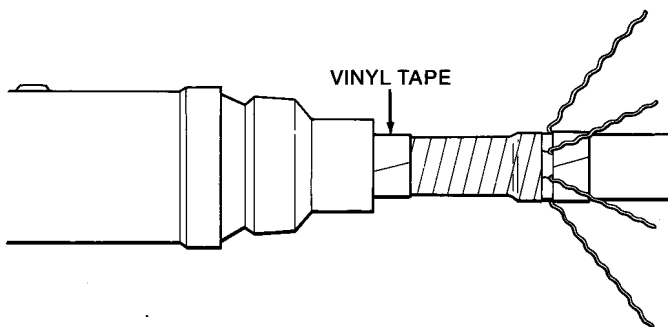

Figure 5
1. Apply a two layer band of vinyl tape over #13 tape wrappings adjacent to each splice end cap. (Vinyl tape should butt against splice end). Figure 5.